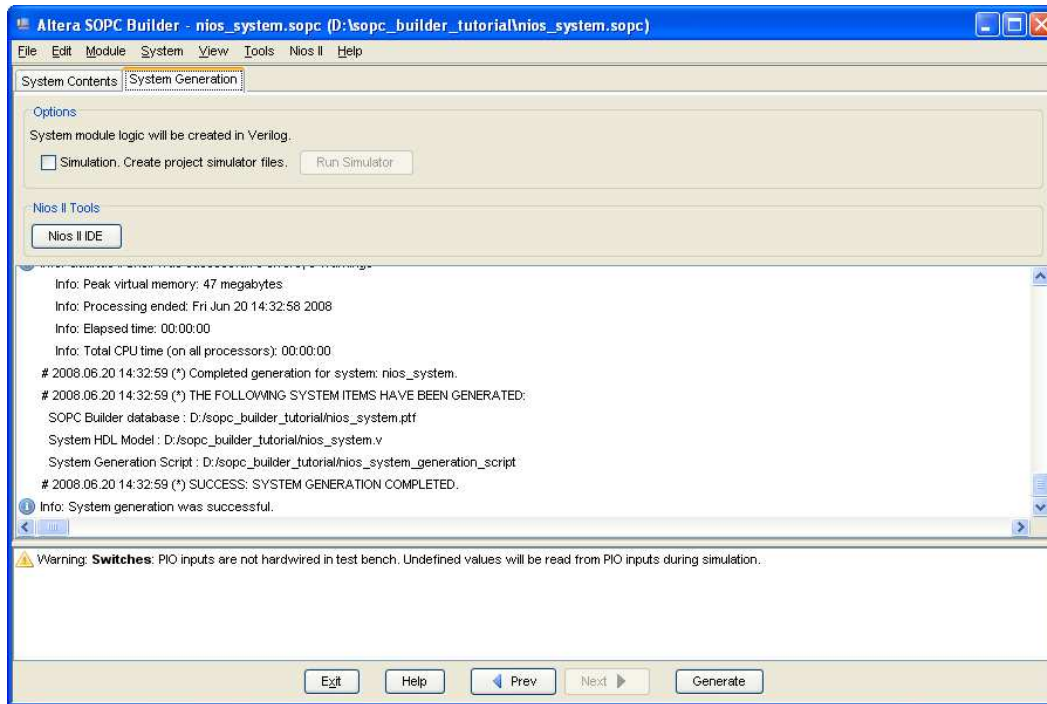

Figure 16. Generation of the system.
13. Having specified all components needed to implement the desired system, it can now be generated. Select the **System Generation** tab, which leads to the window in Figure 16. Turn off **Simulation - Create simulator project files**, because in this tutorial we will not deal with the simulation of hardware. Click **Generate** on the bottom of the SOPC Builder window. The generation process produces the messages displayed in the figure. When the message "SUCCESS: SYSTEM GENERATION COMPLETED" appears, click **Exit**. This returns to the main Quartus II window.